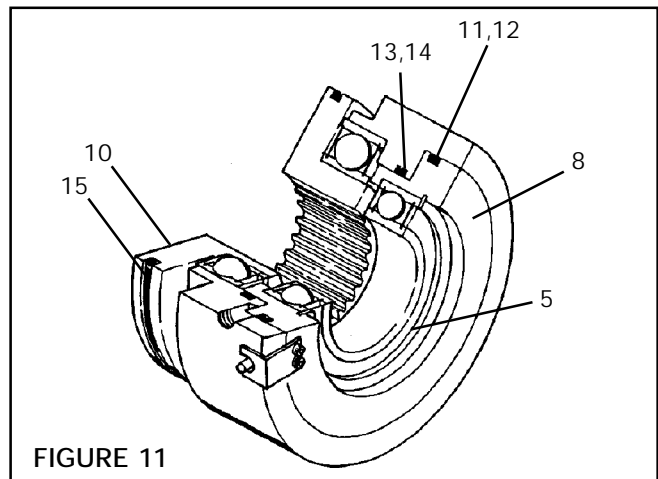

FIGURE 11
1. Remove O-Rings (Items 12 & 13) and Back-Up Rings (Items 11 & 14) from Piston (Item 8) (See Fig. 11).
3. Install new O-Rings (Items 12 & 13) and Back-Up Rings (Items 11 & 14) (See Fig. 11).
4. Remove Rotary Seal (Item 15) from Ring Drive (Item 10) (See Fig. 11).
5. Clean rotary seal groove, then lubricate new Rotary Seal and rotary seal groove of Ring Drive (Item 10) with O-ring lubricant and install new Rotary Seal (See Fig. 11).